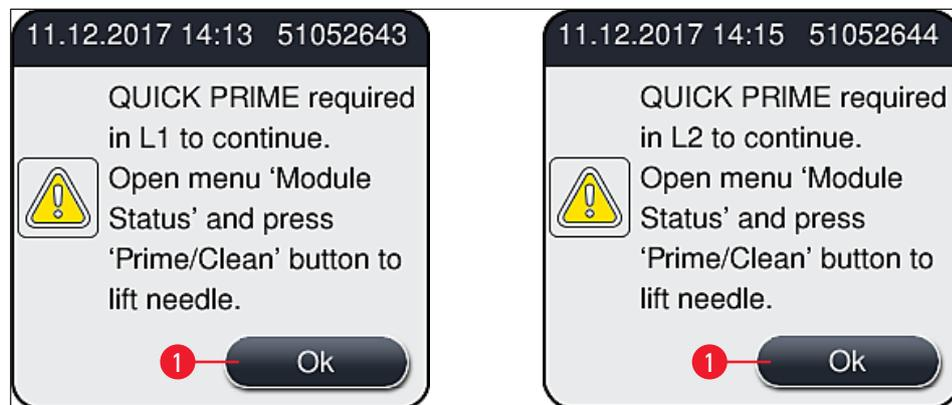

Fig. 52
- ① After completing the initialization phase, the main menu (→ Fig. 20) appears on the screen and the user is informed (→ Fig. 52) that a **Quick Prime** is required for the coverslip line in use. Acknowledge the messages by pressing **Ok** (→ Fig. 52-1) and follow the instructions that follow (→ P. 122 – 7.3 Preparing the hose system for priming and cleaning).